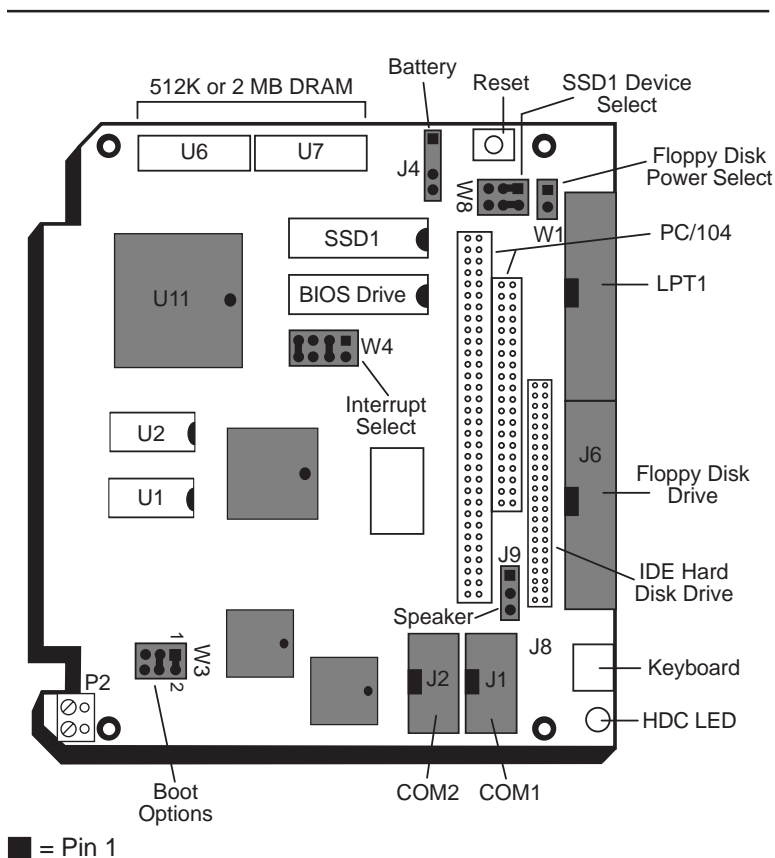

Figure 2-2 – 4010 Component Diagram
If you are panel mounting the 4010, a screw terminal connector (P2) is provided to supply the 5V power. Refer to Figure 2-2 for the location of various connectors.
1. Please refer to Figure 2-2 for the location of various connectors before installing the 4010 Control Card.